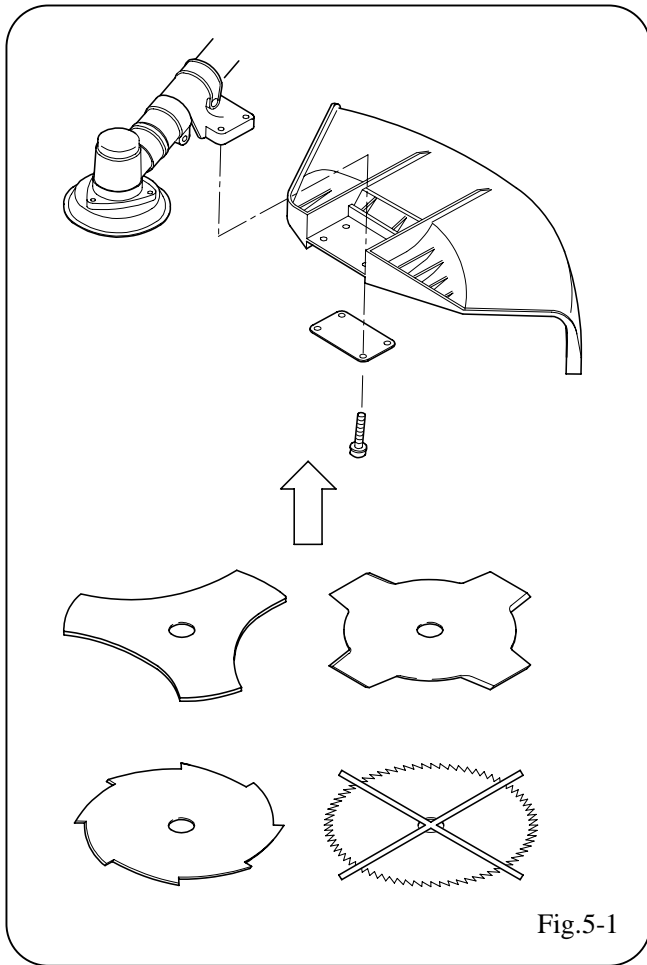

Fig.5-1
1. For safety reasons, it is imperative that the unit is used with the correct guard when fitted with a grass cutting blade. (Fig. 5-1)